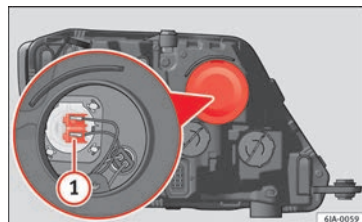

Fig. 145 Changing main beam headlight bulbs.
- Remove connector »» Fig. 145 ① by pulling outward.